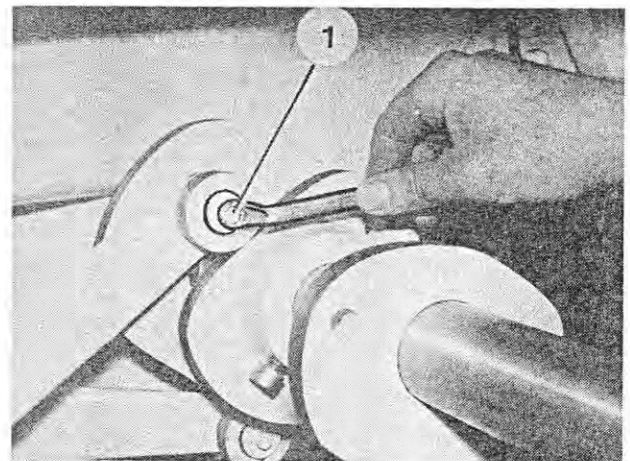

Fig. 254
1. Crank the machine by hand until the cam roller to be replaced is on the lowest point on the cam plate (Figure 254).
3. Unscrew the locking screw (Figure 254/1) of the stop plate and remove the stop plate.